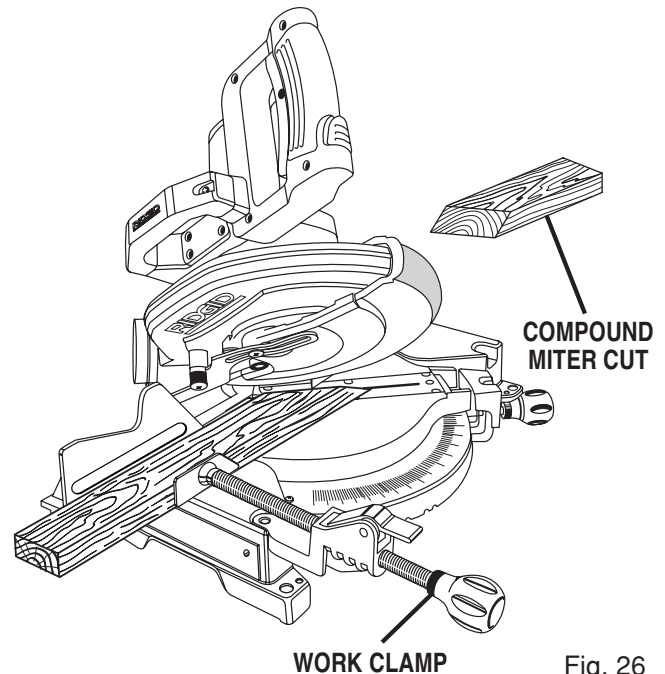

Fig. 26
- Slowly lower the blade into and through the workpiece. See Figure 26.
- Grasp the stock firmly with one hand and secure it against the fence. Use the optional work clamp or a C-clamp to secure the workpiece when possible. See Figure 26.
- Slowly lower the blade into and through the workpiece. See Figures 26 and 27.